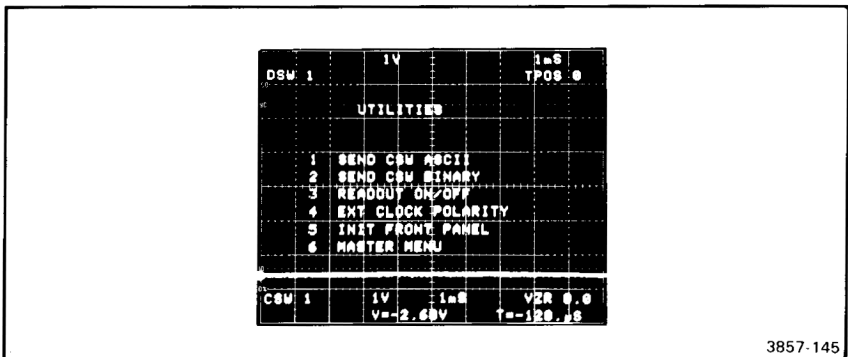

Figure 2-40. UTILITIES MENU.
Pressing MEMORY DISPLAY key 4 causes the UTILITIES submenu, shown in Figure 2-40, to be displayed. As with the MASTER MENU functions, selections from the UTILITIES MENU are made by pressing the numeric MEMORY DISPLAY key that corresponds to the menu selection you want. The UTILITIES MENU can be terminated by pressing MEMORY DISPLAY key 6, which returns the MASTER MENU, or by pressing the illuminated MENU key which terminates the MENU mode.